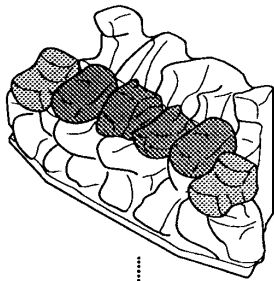

Fig. 29
2. Take 4 coals and place as shown in Fig. 29 bridging the front coal moulding and the rear coal moulding, ensure and flat faces on these coals face downward. Care should be taken as not to allow any coals to drop down between the front and rear coal mouldings (Fig. 29).